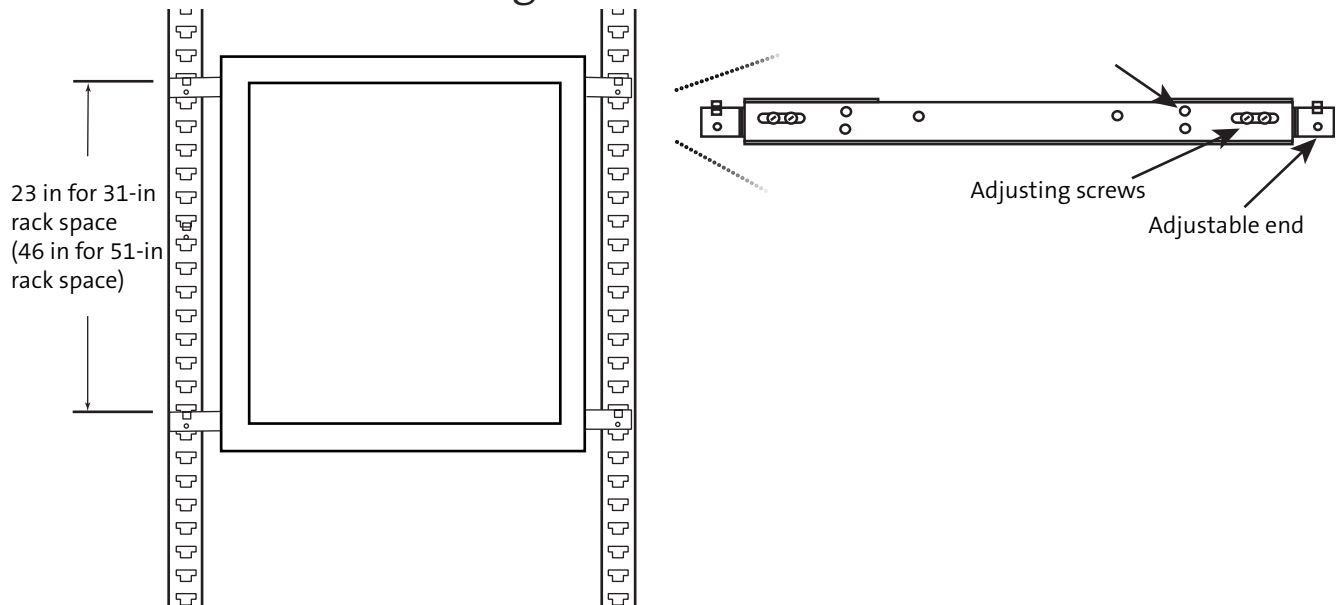

Figure 6
- Step 1:** Use a 15-195-63 T-slot mounting kit. Select a location on the rack. The recommended distance between brackets on the rack is shown in Figure 6.
- Step 4:** Install two mounting screws in the top T- slot mounting bracket at the locations shown in Figure 6.